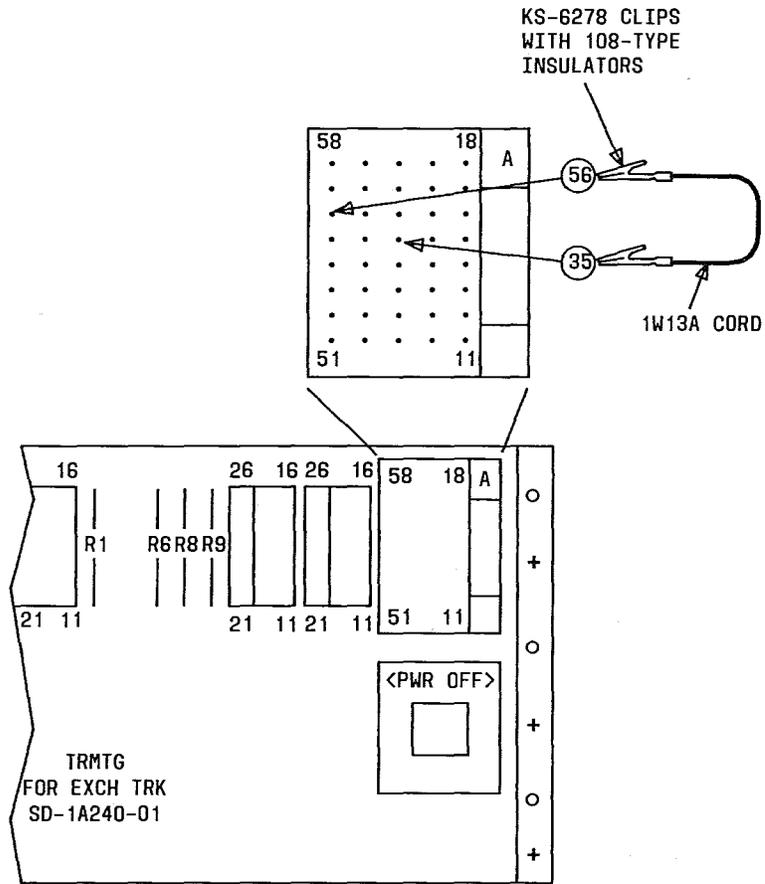

Fig. 28 — Trunk Circuit TS Layout
19. At trunk circuit, momentarily connect **TS A-35** to **TS A-56** (Fig. 28)